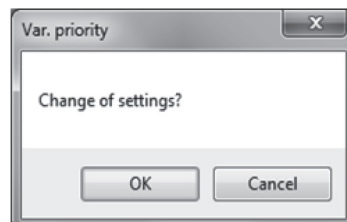

Fig.77
- ④ After all settings are complete, click the "OK" button to display a message box (Fig. 77).